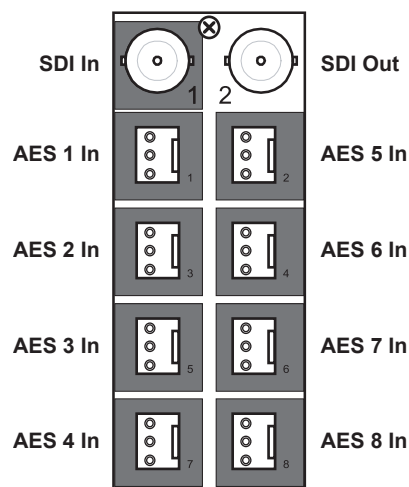

Figure 1.4 Cable Connections for the MUX-8258-B
- **DFR-8310 series frame** — The **8310AR-034** Rear Module is required. Each rear module occupies one slot and accommodates one card. This rear module provides one SDI input, one SDI output and eight balanced AES inputs. (**Figure 1.4**)
- **DFR-8320, OG3-FR, and OGX-FR series frames** — The **8320AR-034** Full Rear Module is required. Each rear module occupies two slots and accommodates one card. This rear module provides one SDI input, one SDI output, and eight balanced AES inputs. (**Figure 1.4**)